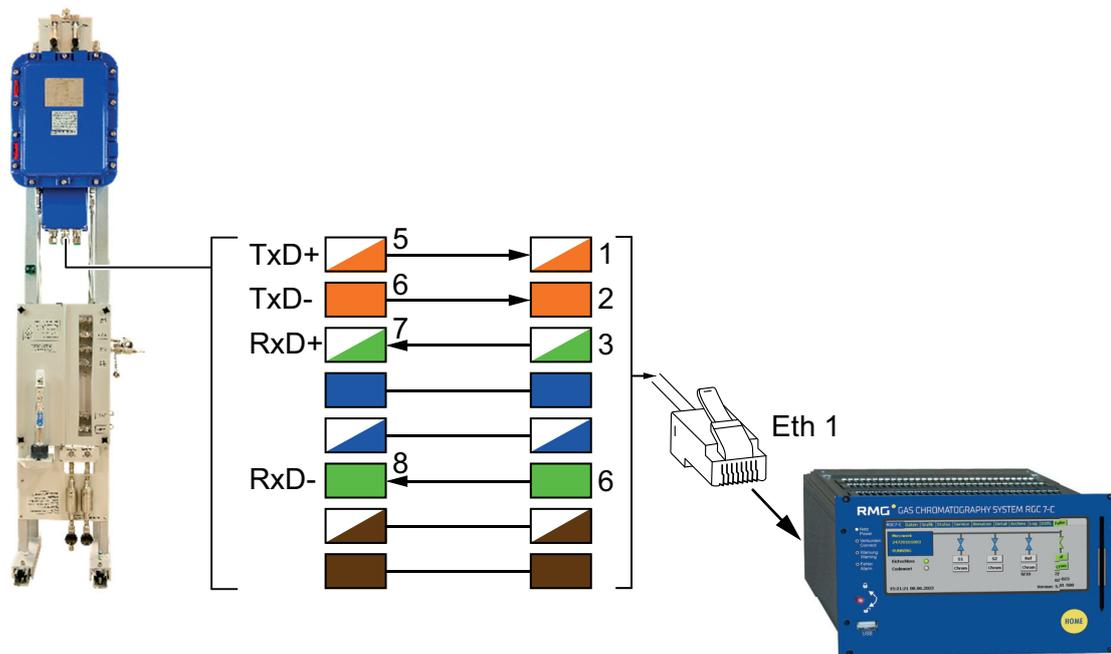

Fig. 8: Terminal assignment for Ethernet cable in the socket of the RGC 7-M
- ▶ Connect the cores of the cable to the terminals in the socket of the RGC 7 measuring unit as shown in the following table (cf. also fig. 8).